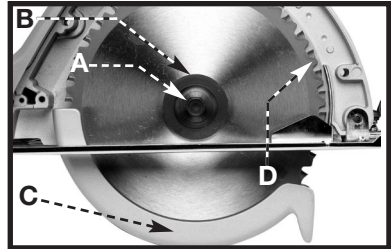

Fig. 9
5. While holding the arbor lock (B) Fig. 7, use the provided wrench to loosen the blade retaining bolt (A) Fig. 9.
6. Remove the blade retaining bolt by turning it counter-clockwise, release the arbor lock, and remove the outer blade flange (B) Fig. 9.
2. Clean the inner blade flange and place the new blade on the arbor, making sure that the teeth point up as in (D) Fig. 9. **NOTE:** Use blades that have a 20mm arbor, and that are rated for 4200 rpm or higher.
3. Place the outer blade flange (B) Fig. 9 on the arbor with the flange toward the blade and with the flats matching those on the arbor.
4. Replace and finger-tighten the blade retaining bolt (A) Fig. 9 by turning it clockwise.
**⚠ WARNING** The telescoping guard (C) Fig. 9 is a safety device important for your protection. Every time you use the saw, make sure that the telescoping guard rotates freely and returns quickly and completely to its closed position. Before each use, remove any accumulated chips, or shavings from the area around the hub (B) Fig. 9 of the telescoping guard. (Refer to “**REMOVING DEBRIS**”). **DO NOT LUBRICATE THIS AREA.** The hub has a dry film lubricated surface that does not need oiling. **NEVER** block or wedge the telescoping guard in the open position.